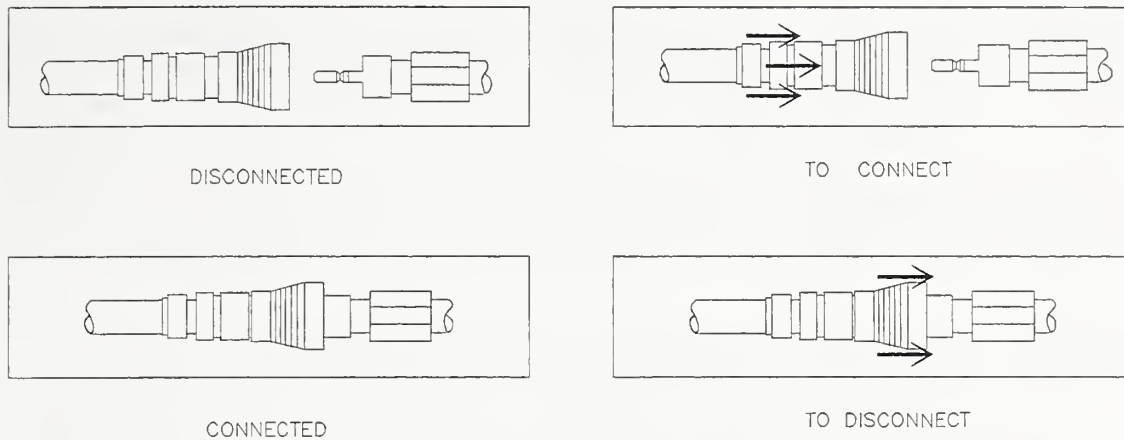

Figure 10. Female and male quick-connect operation
- d. Push the body of the female quick-connect toward the center of the base unit until it clicks. Refer to Figure 10. To shorten the air hose assembly to suit your application, see **Appendix C** on page 60.